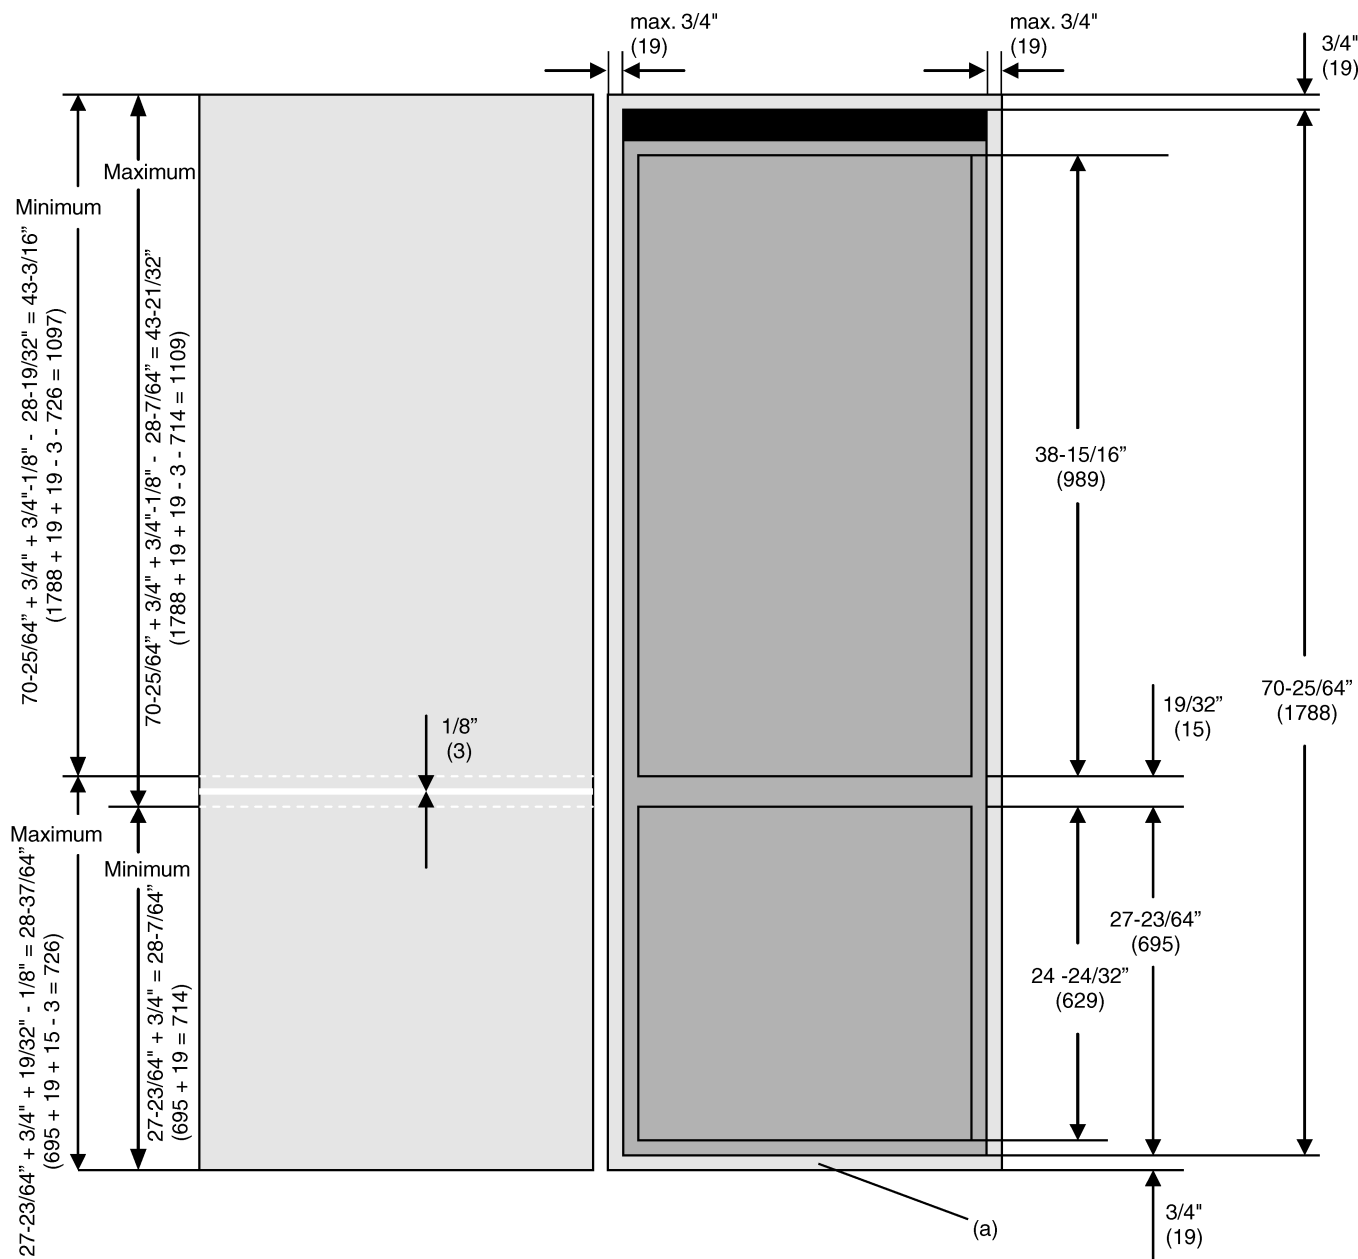

Fig. 7
- ▶ To cover the face side of the floor board *Fig. 7(a)*: increase the height of the panel to 27-23/64 in. + 3/4 in. = 28-7/64 in. (695 mm + 19 mm = 714 mm).